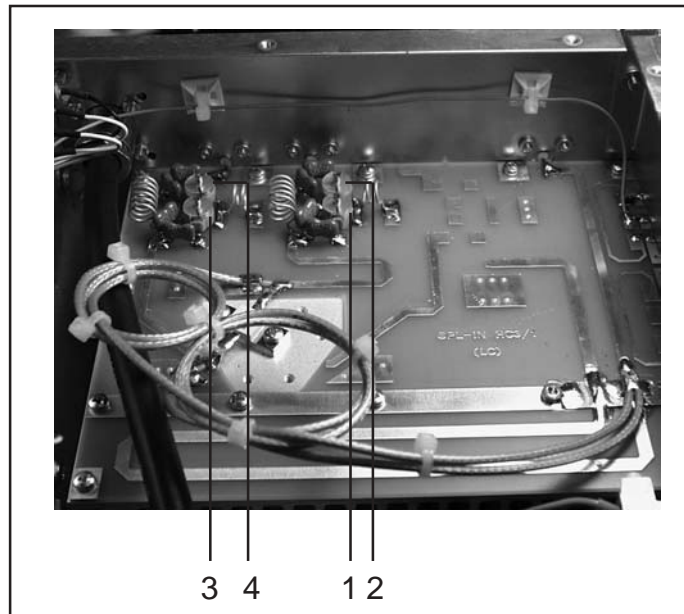

Figure 4
- 6) Adjust the variable capacitors (1) and (2), relative to the first amplifier output (Figure 4) to maximize the power measured by the Coupler's instrument.